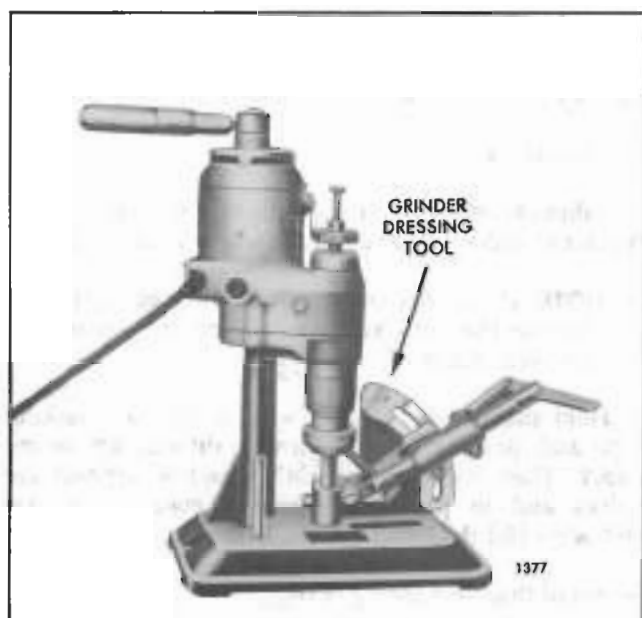

Fig. 13 - Grinding Wheel Dressing Tool of Set J 24566
4. When occasion requires, the grinding wheel may be dressed to maintain the correct seat angle with the dressing tool provided with the grinder set (Fig. 13).